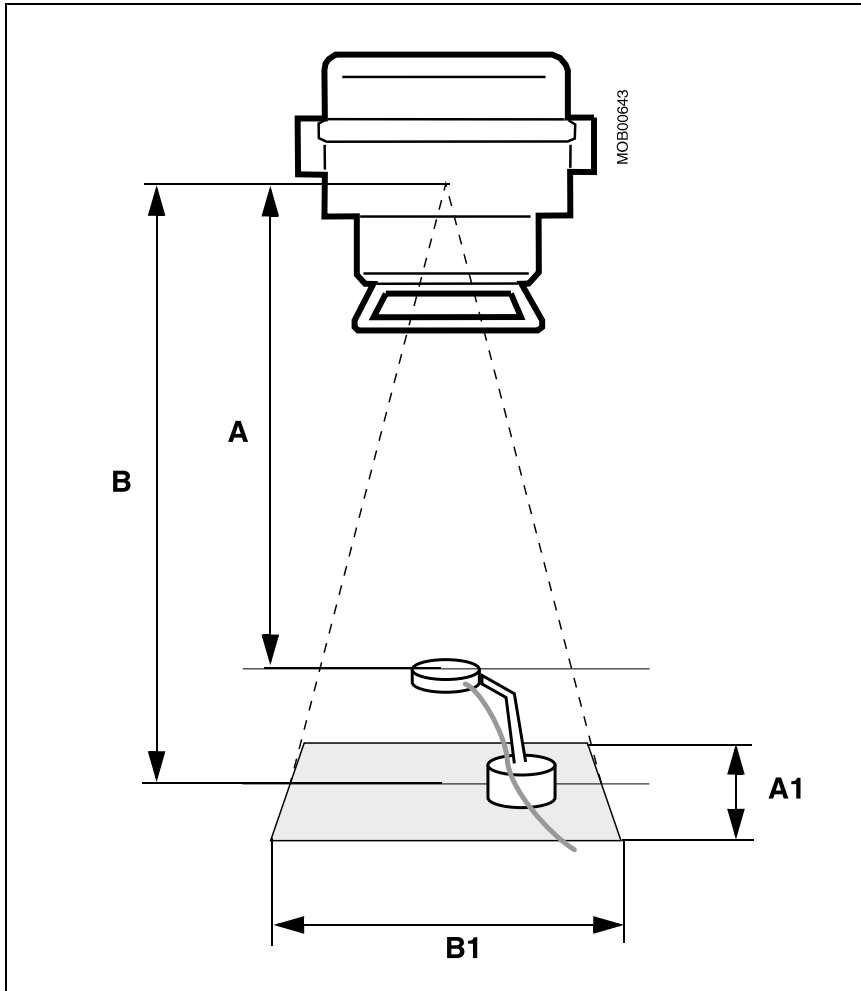

Fig. 82: DAP calibration setup
- Perform the calibration setup (Fig. 82 / p. 86).
- Measure the focus-to-dosimeter distance (A/Fig. 82 / p. 86) and then the **width** and **length** of the light field on the surface. For optimal precision, position an unexposed film cassette on the surface and measure the width and length of the exposed surface after releasing an exposure.
- Measure the focus-to-light field/surface (B/Fig. 82 / p. 86).